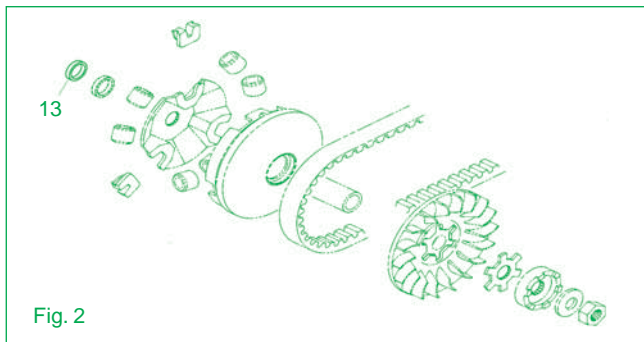

Fig. 2
Only for Malaguti F12 L/C models manufactured after the year 2000 (**featuring vented cap as a standard outfit**), shim (13) must be compulsorily assembled before installing Variotop “TPR” (see Fig. 2).